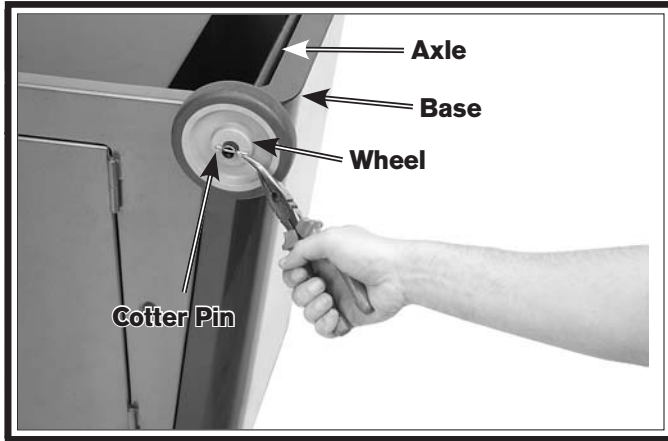

Figure 13. Wheel assembly.
7. Insert the axle through the holes in the base assembly, then slide the wheels over the axle and secure each with a cotter pin, as shown in **Figure 13**.